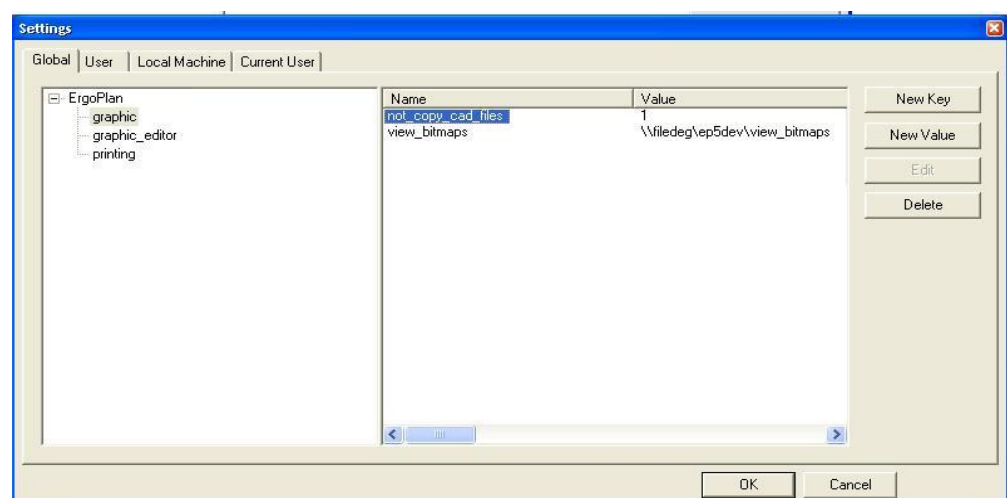

Figure 168: Settings to not Copy the Geometry of Resources
- 2) Set graphic/not_copy_cad_files value to 1. *Please refer to the Figure 168.*